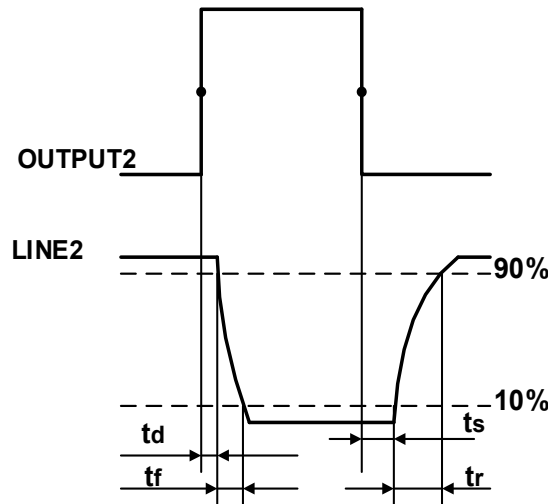

Figure 7-12 Parameter of Line2 output circuit
- Rising time delay = t_r+t_d : < 20 μs (0 °C ~ 45 °C) (parameter description as shown in Figure 7-12)
- Falling time delay = t_s+t_f : < 20 μs (0 °C ~ 45 °C) (parameter description as shown in Figure 7-12)